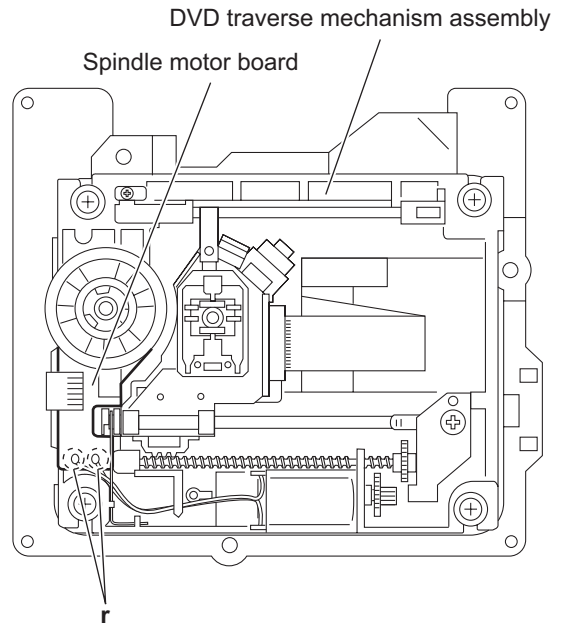

Fig.16
3.2.9 Removing the spindle motor board (See Figs.16 and 17)
- From the top side of the DVD traverse mechanism assembly, remove the wires from the soldered sections **r** on the spindle motor board. (See Fig.16.)